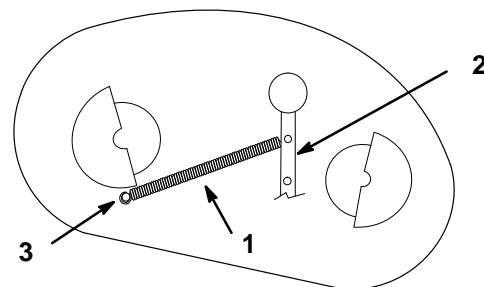

Figure 2
5. Hook the tension spring onto the idler arm and the bolt by the belt cover (Fig. 2).